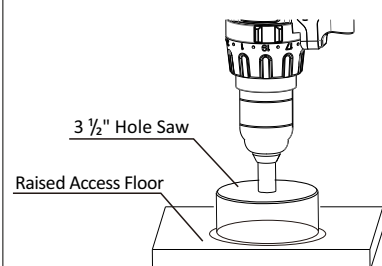
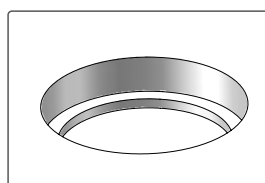

Fig. 3
Fig. 4
3. Center a 3 1/2" hole saw in the 4 inch opening and cut through all the remaining layers of flooring (Fig. 3). Remove any extra material to create a clean lip for the #812-DA box to rest on (Fig. 4).